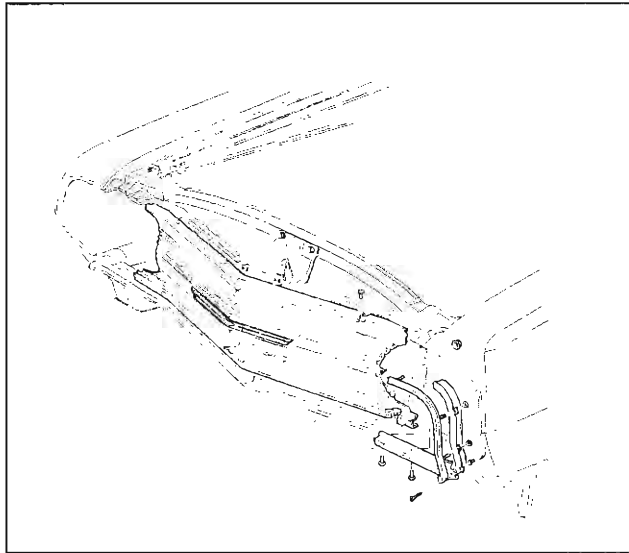

Fig. 16—Grille, Emblem and Molding
8. Remove one left or right, upper and lower grille moldings (at headlamp) (fig. 16).